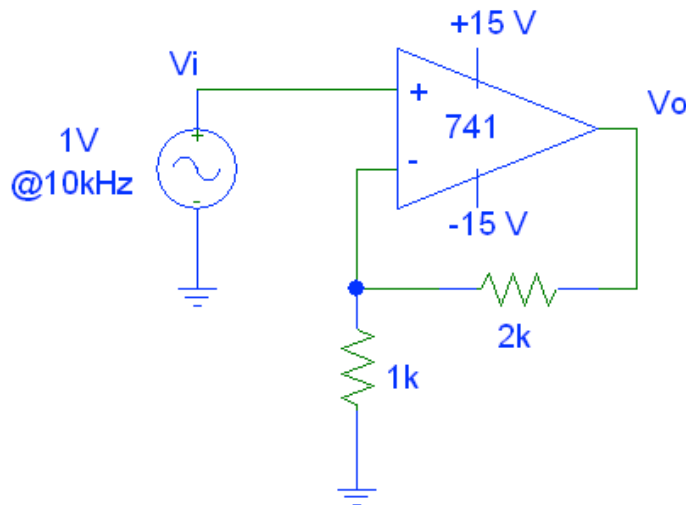

Figure 8: Non-Inverting Op-Amp Circuit
1. Recall that the gain of the op-amp circuit in Figure 8 is:
Measure the gain and the phase shift between the output voltage and input voltage of the op-amp circuit shown in Figure 8, assuming that $v_i(t) = \cos(\omega t)$, such that $f = \omega/(2\pi) = 10\text{kHz}$. If there is any clipping on the output waveform, the DC offset on the function generator may need to be adjusted.